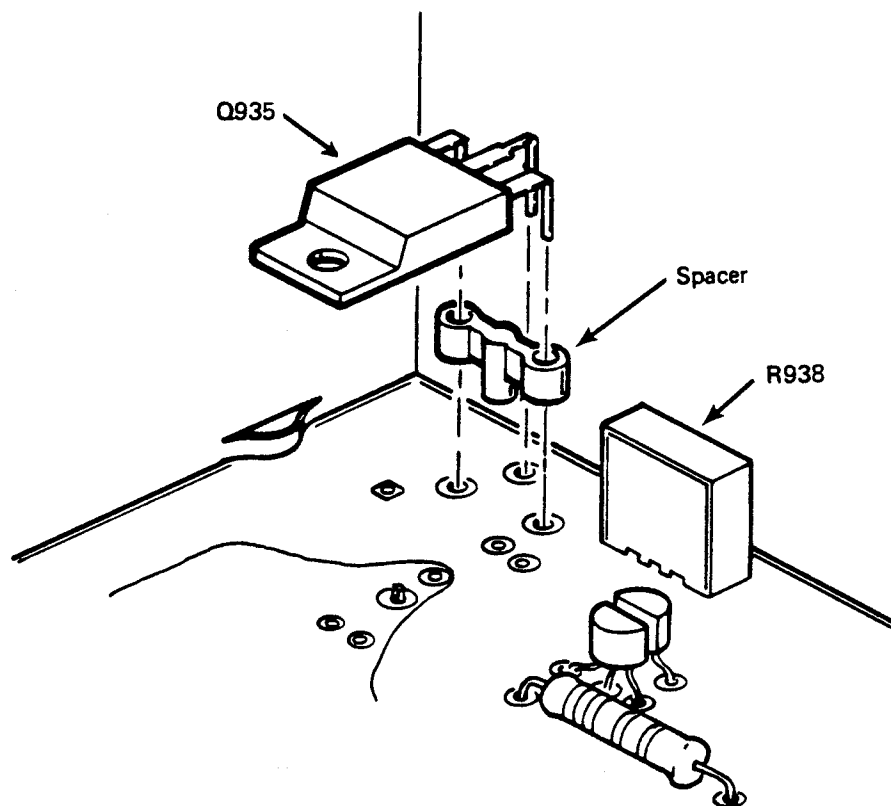

Fig. 2. SCR Installation
- () 11. Replace Q935 with the new SCR, included in this kit, using the included spacer as shown in Fig. 2.